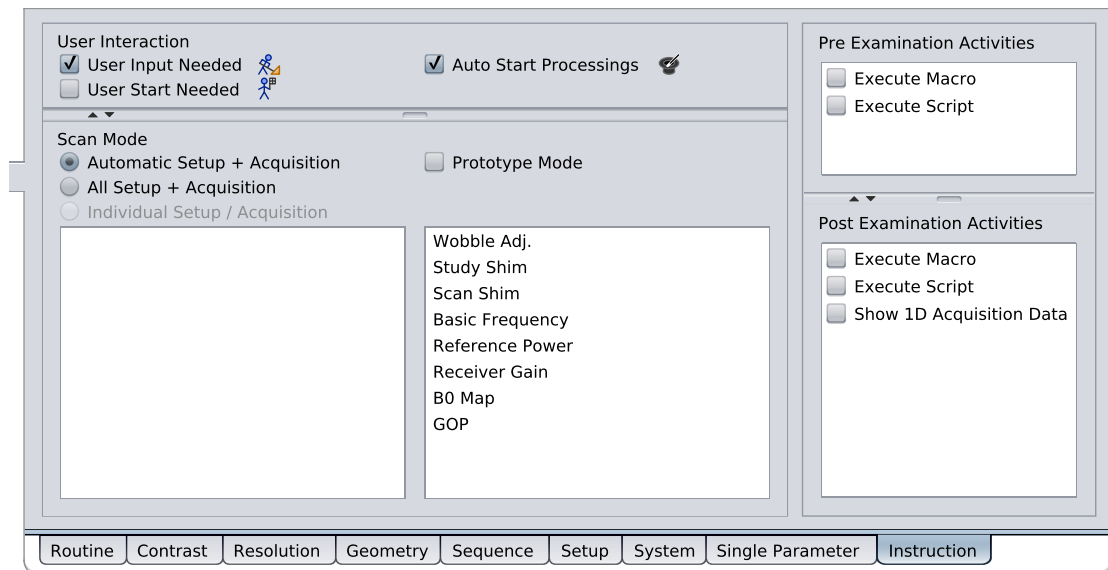

Figure 1.45: Instruction Card
- The Instruction tab (see [Figure 1.45 \[p 62\]](#)) is raised.